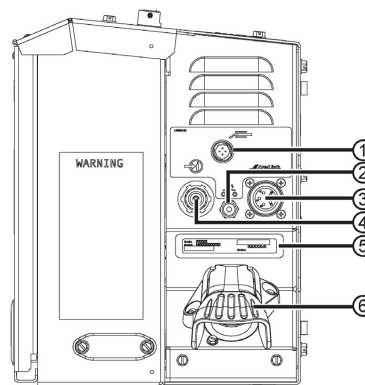

Figure 4 : Back Panel
1. **Work Sense Lead Pass Through** - This is an optional connection. By default the work is sensed directly from the power source output studs. For the remote Work Sense lead to be used, a separate Work Sense lead must be connected between the power source and connection 1 on the APEX 30M CONTROL Back Panel. See Figure 4 : Back Panel on page B-3 .
For all back panel connections - see Figure 4 : Back Panel on page B-3 .